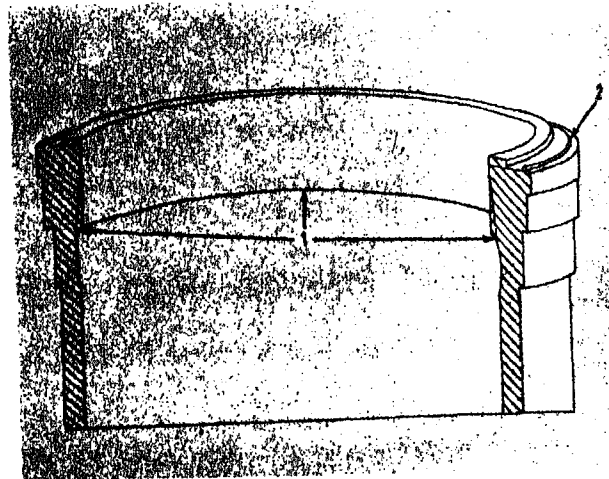

Fig. 1-2-2. Worn ridge in cylinder liners
6. Mark liners to be reused for ridge cutting, boring or grinding and honing if worn less than above limits and otherwise undamaged in area (1, Fig. 1-2-2).